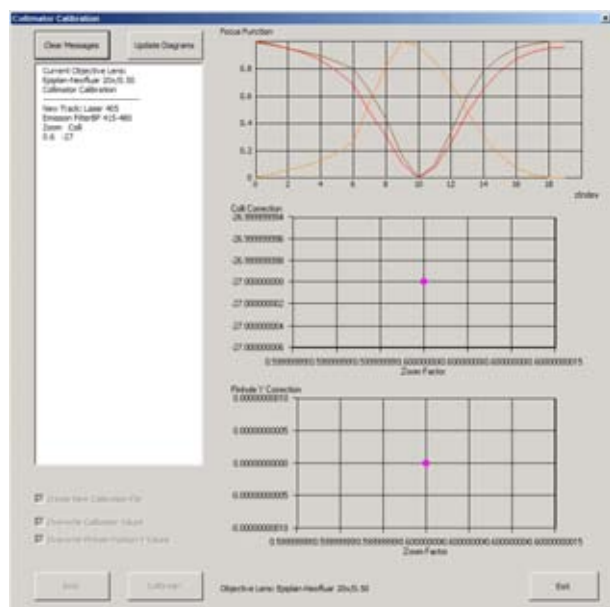

Fig. 4-180 Running the Calibration Matrix
- This window provides three check boxes (Fig. 4-180)